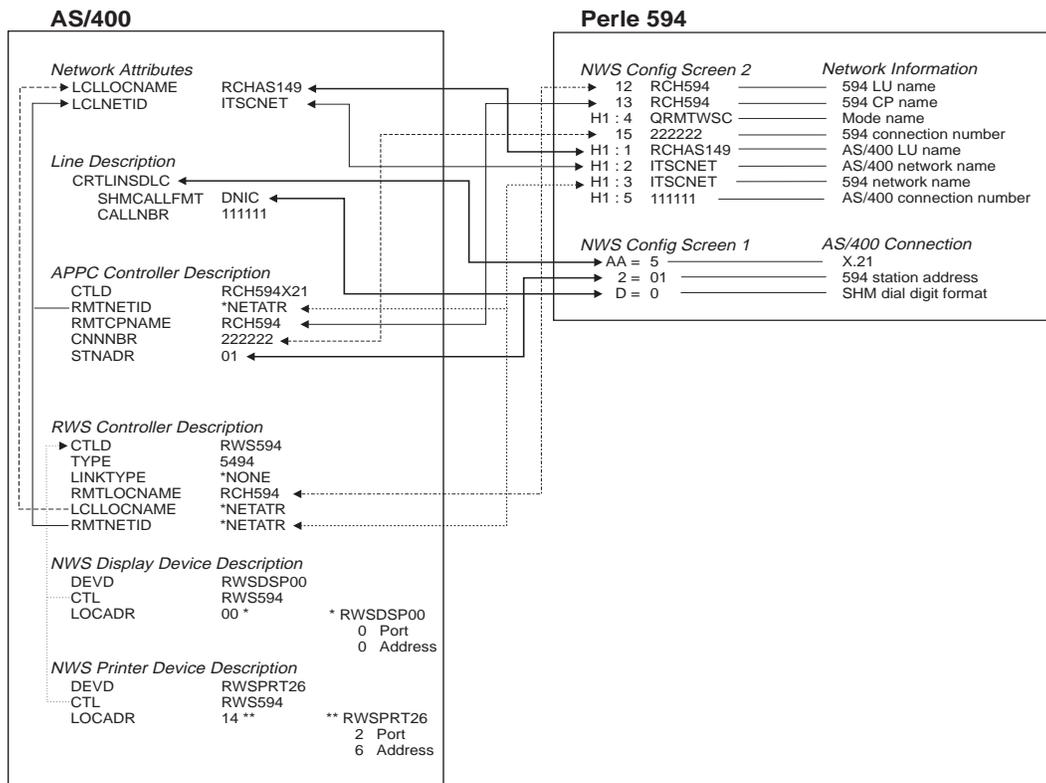

Fig. 4: X.21 Switched configuration cross-reference
- Fig. 4: X.21 Switched configuration cross-reference 3